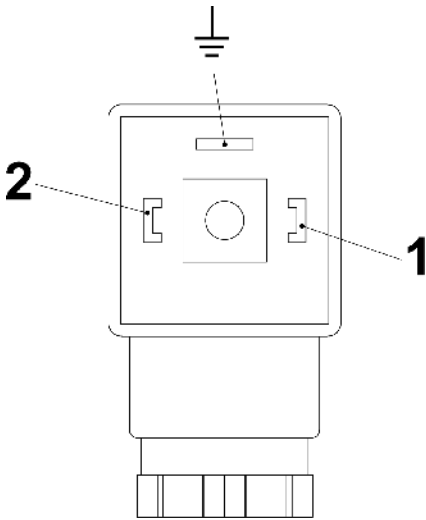
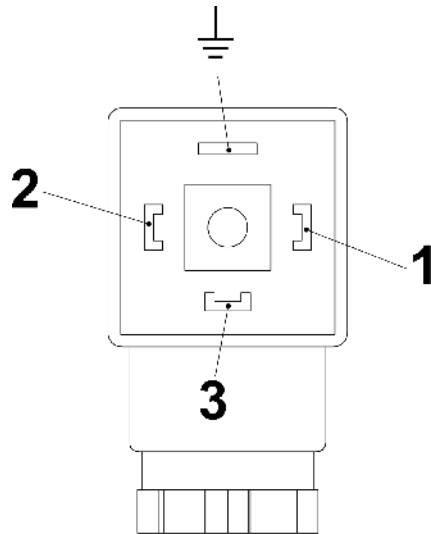

Fig. 23: Pin assignment, plug socket, Normally Open Contact (Form 30x70)
Fig. 24: Pin assignment, plug socket, Change-Over-Contact (Form 30x70)
6. ➤ Make the connections as shown in the connecting diagram (Fig. 23 und Fig. 24).